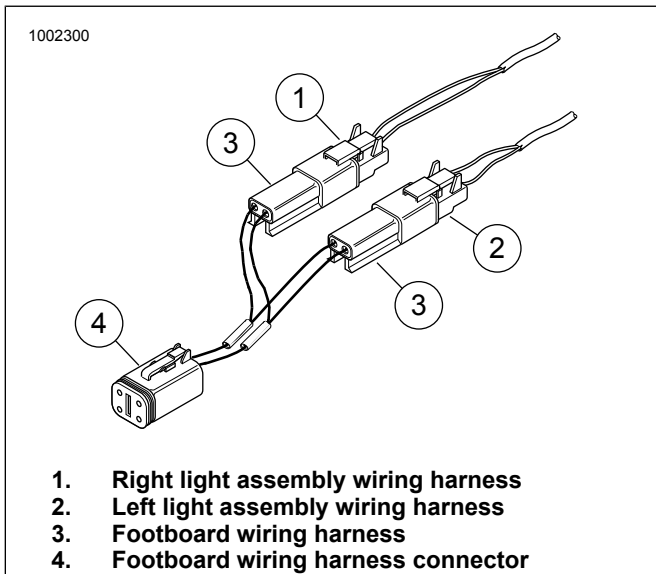

Figure 2. Electrical Connections - All 1994 and Later Touring Models
1. See Figure 2. Starting with the left side footboard (1), tilt footboard to the upright position for access to bottom of footboard.
2. Using a window cleaning solution, spray the three rubber bumper tabs (2) protruding through the bottom of the footboard.
3. Starting with the center hole, apply upward pressure to the light housing (3) and using pliers, pull down on rubber bumper tab until light is seated onto tab. Repeat for left and right side tabs.